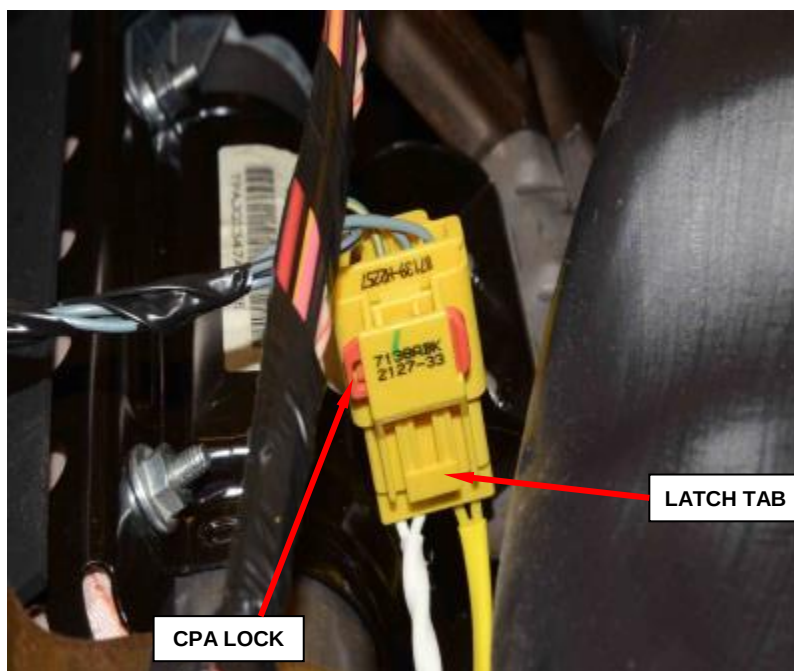

Figure 143 - Airbag Inflator Pigtail Connector
- a. Slide the red Connector Position Assurance (CPA) lock on the connector toward the side of the connector (Figure 143).